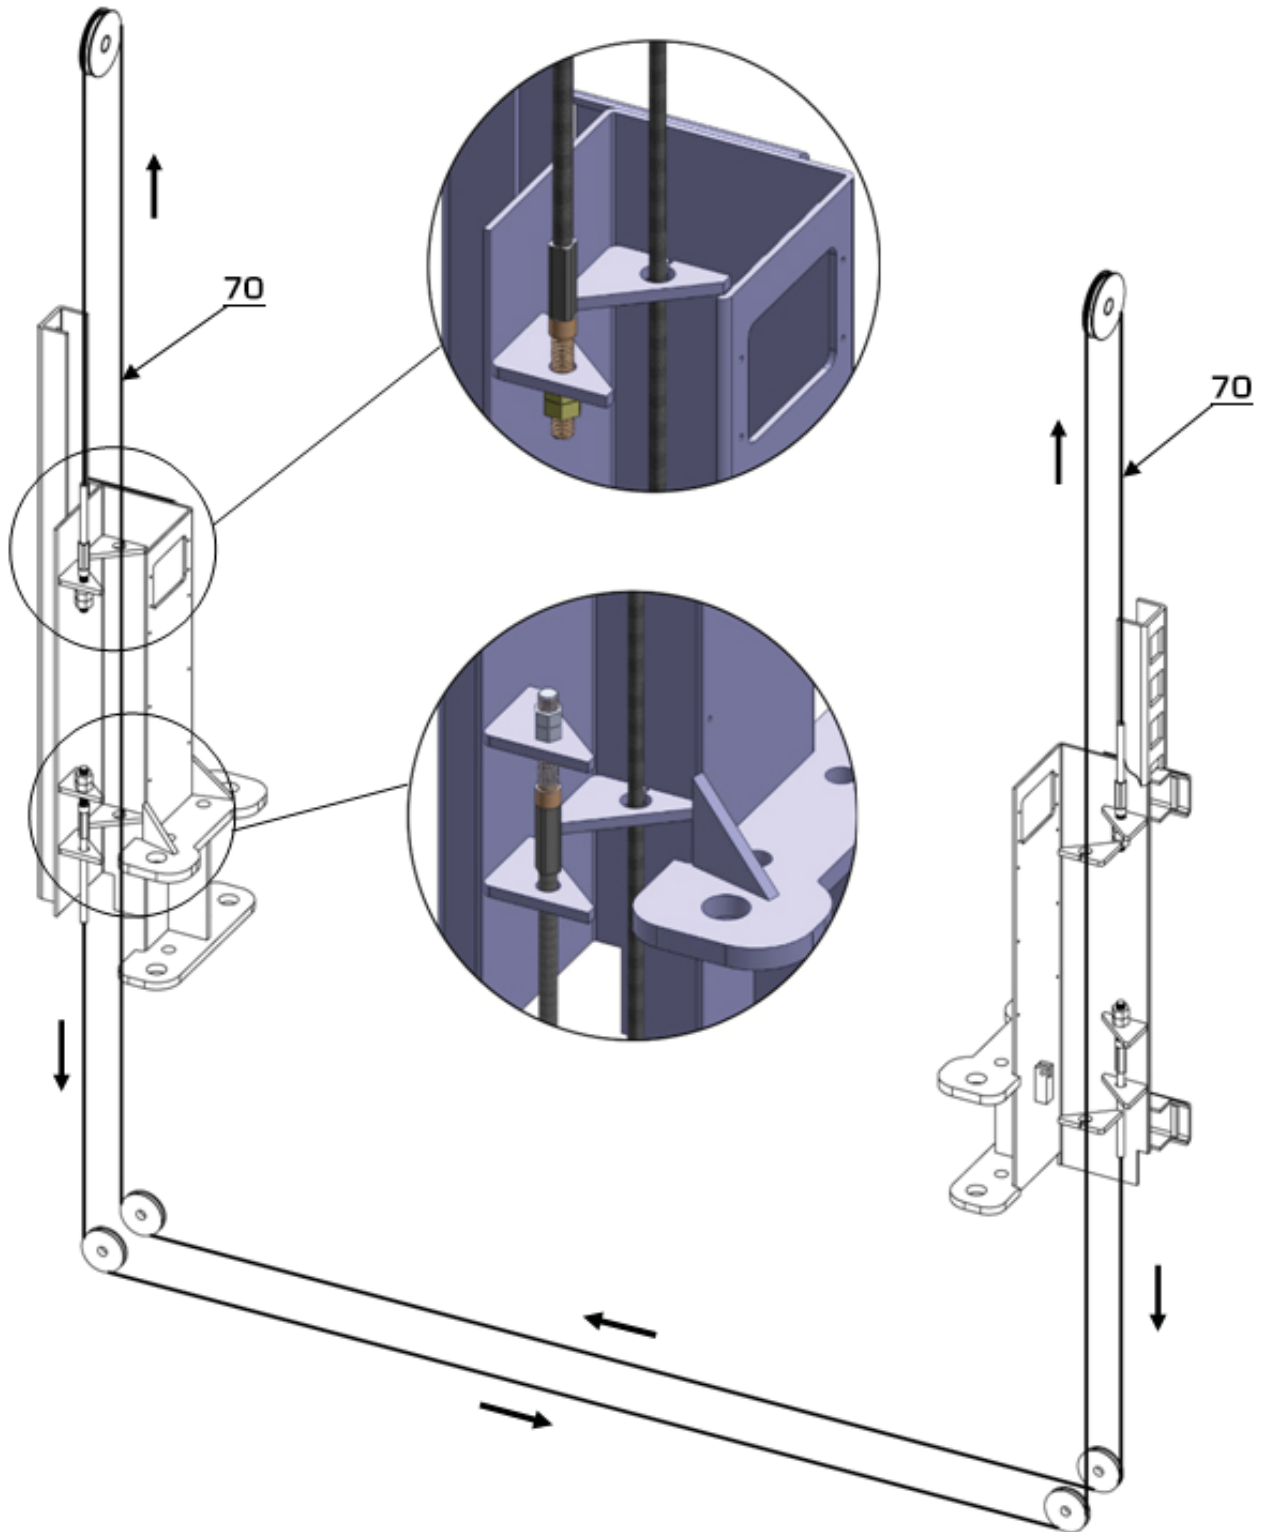

Fig. 21
2.2. Pass the cable through as shown below (See Fig. 21).